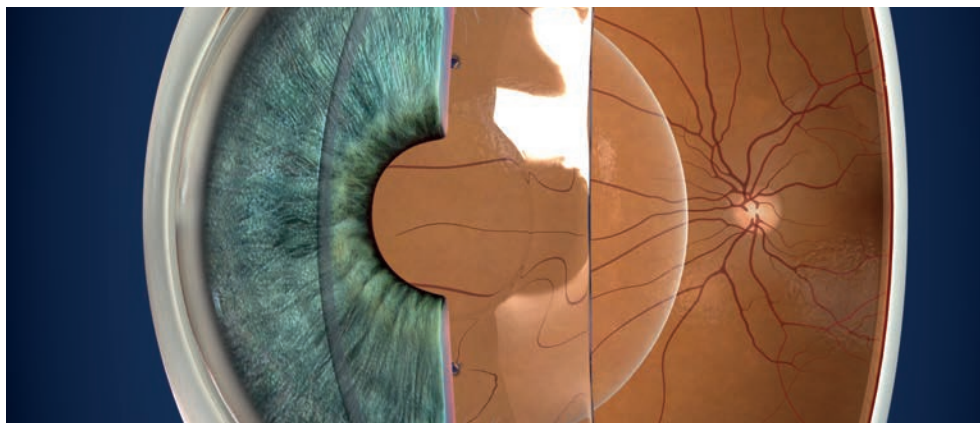

Figure 1. Visian ICL lens implant, in position behind the iris and in front of the natural lens.
How do you achieve this? Ultrasound biomicroscopy (UBM) or anterior segment (AS)-OCT (6,7), if you can (Figures 1 and 2) – with UBM, you want to see a visible route under the scleral flap and a low-reflective bleb – if you cannot visualize a tract under the flap or you see a highly reflective bleb surface – the bleb is not working properly (8). With AS-OCT, you're looking for multiform reflectivity, multiple internal layers, subconjunctival separation and microcysts as a sign that the bleb is functioning.
Figure 1. (a) Representative AS-OCT image of bleb wall showing uniform reflectivity in the bleb wall, Hyper-reflective areas are visible as a dense white area within the bleb wall. The asterisk marks the single cavity for aqueous drainage and the rest of the bleb wall shows uniform reflectivity. (b) Multiform reflectivity of the bleb. The arrows indicate multiple tiny cavities of aqueous drainage, thereby generating multiform reflectivity of the bleb wall. Adapted from (8).
There are two distinct pathways to innovation: the first is the classical bottom-up, or vertical translation model (Figure 1), where the developed technology is actively "pushed" to the potential users; the second is the horizontal translation model (Figure 2), where a technology is "pulled" from other domains to provide a potential solution. Though each pathway type is a crucial step towards efficient translational research, it's important to understand the specific challenges of each process.
The success of the translational science approach depends on the ability to establish appropriate (and cooperative) relationships between those with bench-science expertise in academia and those who understand unmet clinical needs and how to apply the product “at the bedside” – the healthcare provider. This creates a “continuum of innovation” (3) from basic to applied science and back again. In some respects, though, the paradigm applied (traditional or translational) doesn’t matter in terms of innovation: advances are driven from the bottom up, towards the user – it’s known as the “vertical translation pathway” (Figure 1).